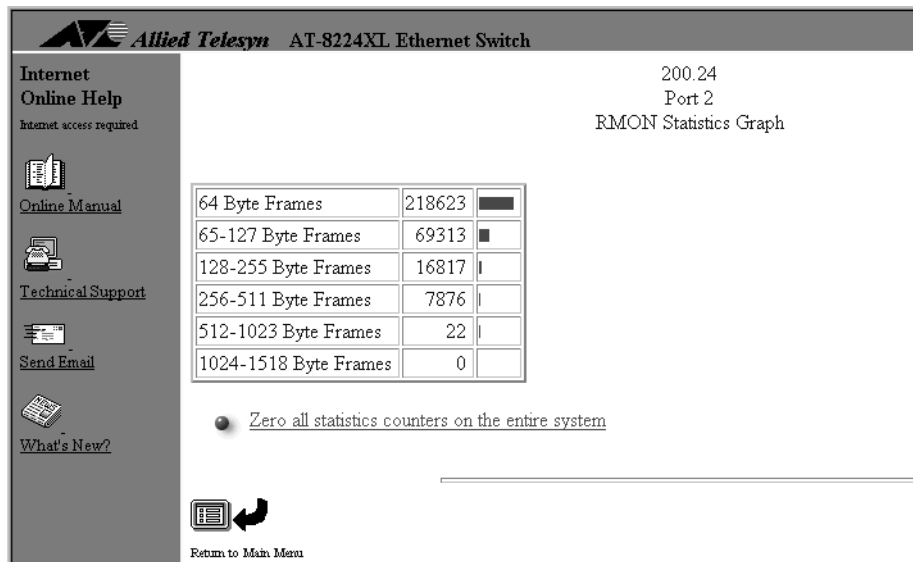

Figure 69 Sample RMON Statistics Graph for a Port
3. Select a port to display a graph similar to Figure 69.